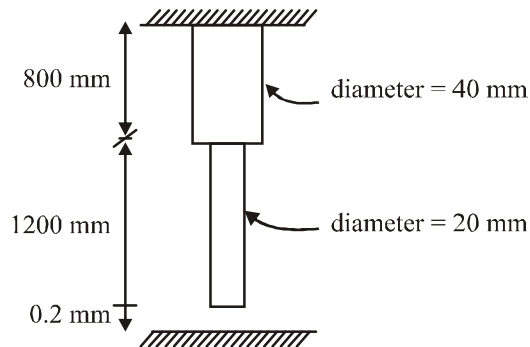

Fig. 2
6. A composite bar made of two steel sections is rigidly fixed at the top. The gap between its lower end and the rigid support is 0.2 mm (**Fig. 2**). Estimate the stresses in the two sections if the bar is heated through 80°C . Take $E_s = 200 \text{ GPa}$ and coefficient of thermal expansion $\alpha = 12 \times 10^{-6}/^\circ\text{C}$.